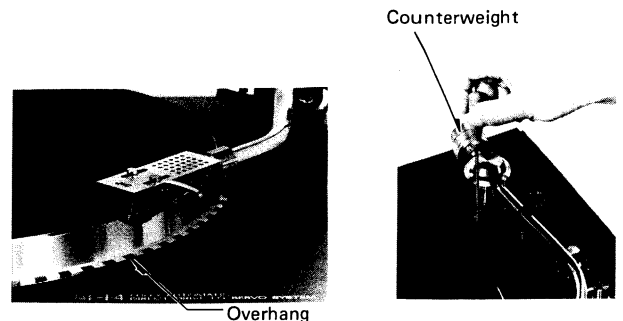

Fig. 31
### 10-(3) Overhang Adjustment (Fig. 31)